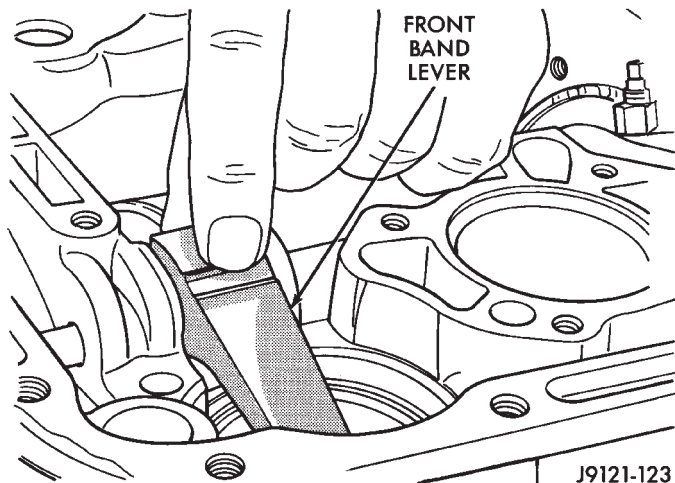

Fig. 89 Front Band Lever
(c) Remove front band lever (Fig. 89).
- (d) Align holes in link bar with hole in transmission case outboard of rear support opening (Fig. 89).